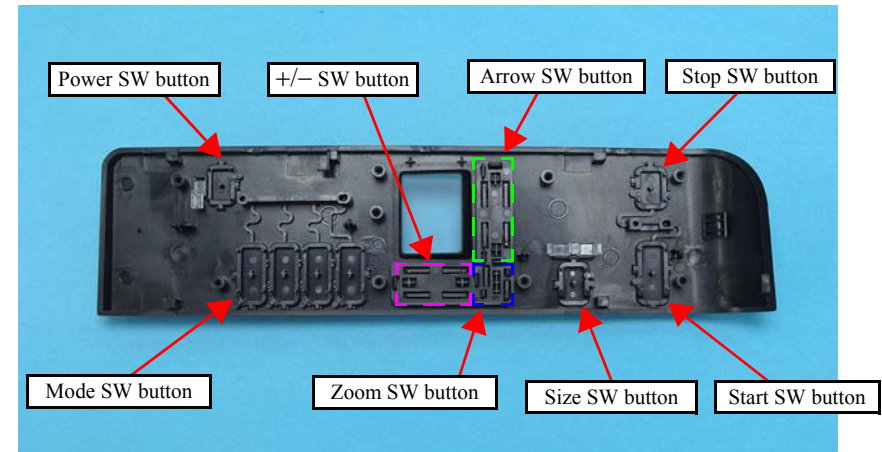

Figure 4-152. Removing the Switch Button
- When installing each button, securely engage the hooks, or align the dowels and the positioning holes correctly. After assembling them, press all the buttons to confirm they sure click. (See Figure 4-152.)